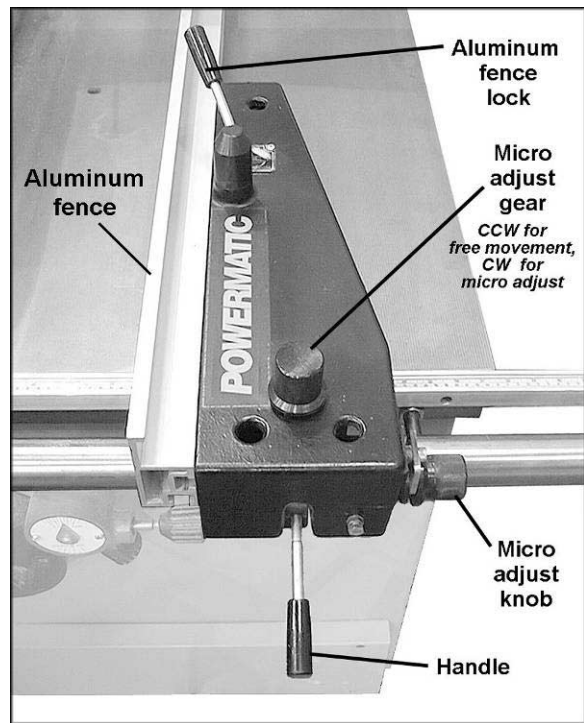

Figure 37
1. To move the rip fence, shown in Figure 37, turn the micro adjust gear counterclockwise, and lift the handle. The fence should slide freely on the guide bar.